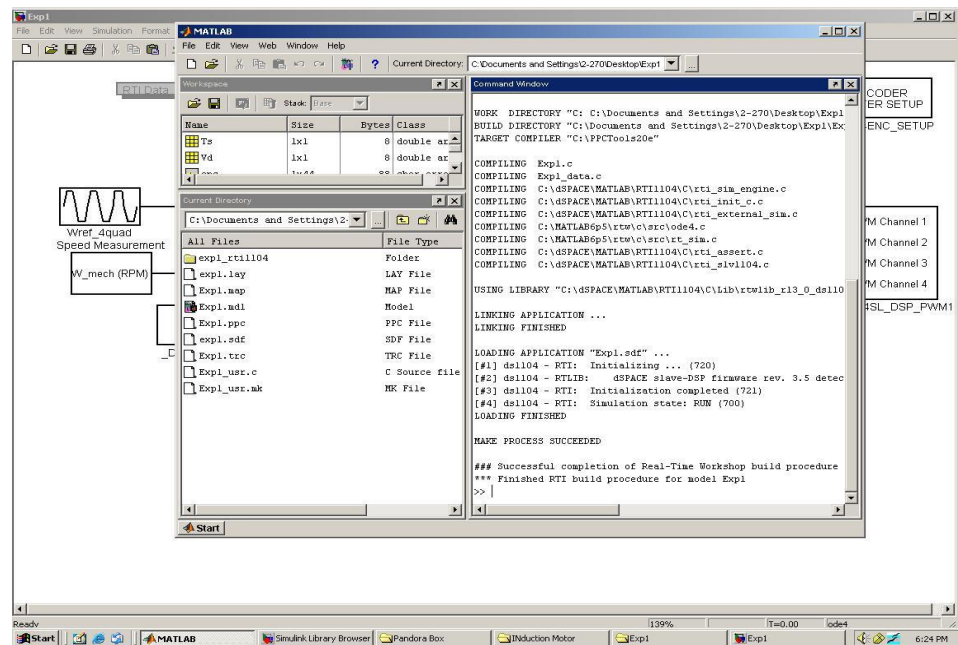

Figure 1.6: Building the Simulink program, real-time implementation
- Type  $V_d=42$  and  $T_s=1e-4$  in the Matlab prompt. Press CTRL+B to build the **control-system** in real-time now. Refer to Fig 1.6, note the sequence: 1) Compilation of C-code that is generated by Simulink, which will be used to implement **control-system** in hardware DS1104, 2) Generation of Exp1.sdf file, which will be used later on by Control-desk, to access the variables of **control-system**.